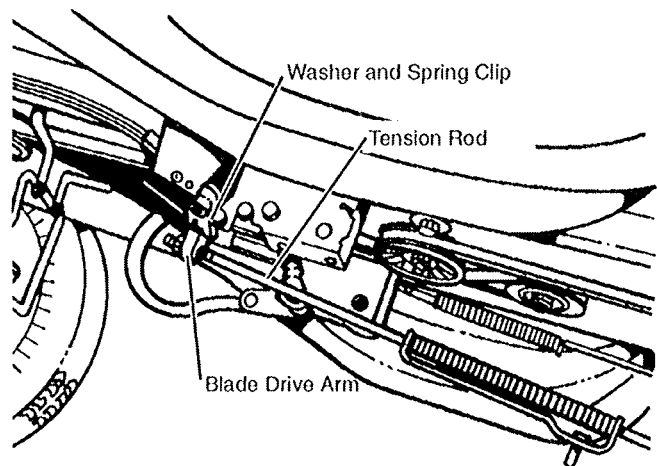

Fig. 12
- Raise tension rod and attach to blade drive arm using flat washer and spring pin clip from parts bag. (See Fig. 12 and 13)